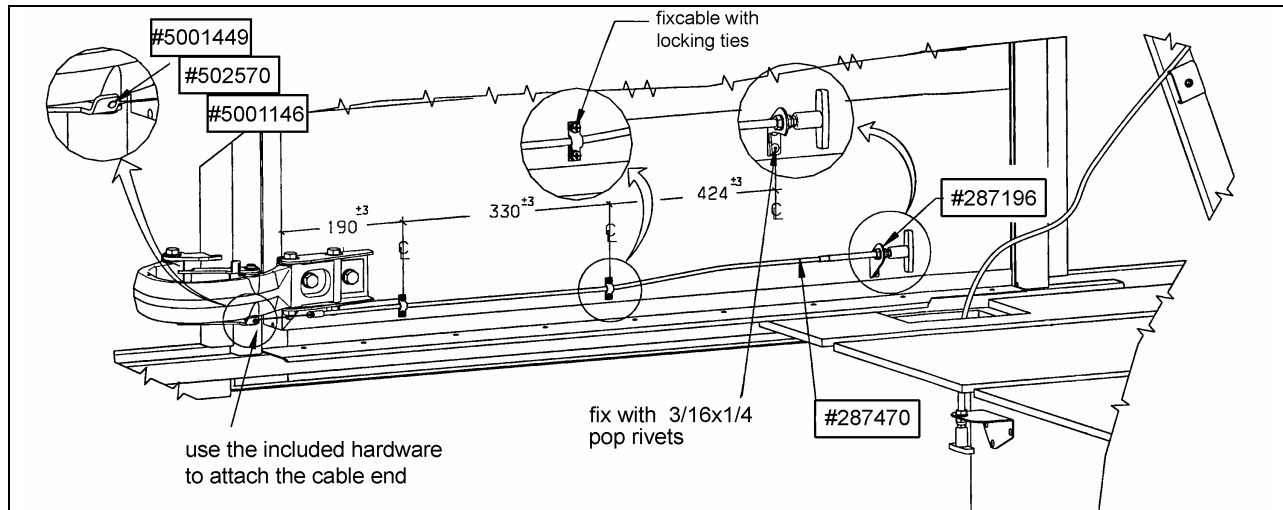

FIGURE 5: DOOR CLOSING CABLE INSTALLATION
5. Attach the cable end to the hinge with the included hardware (figure 5). Use 2 nuts #5001449, one as a jam nut.